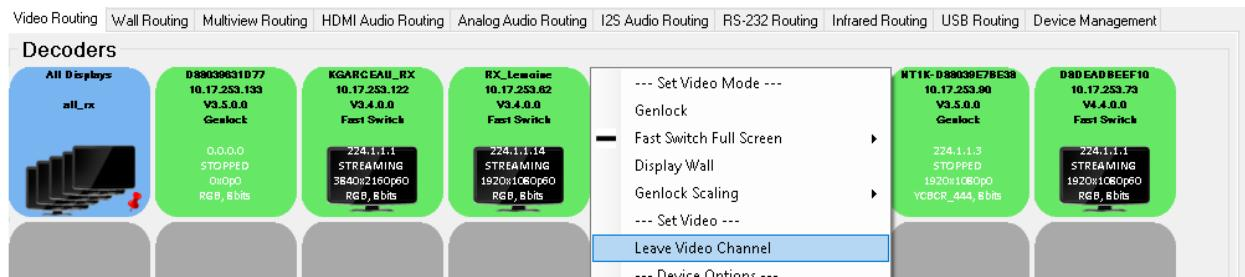

Figure 8 Leave Video Channel option of BlueRiver decoder (TX) menu
Refer to Figure 8 Leave Video Channel option of BlueRiver decoder (TX) menu